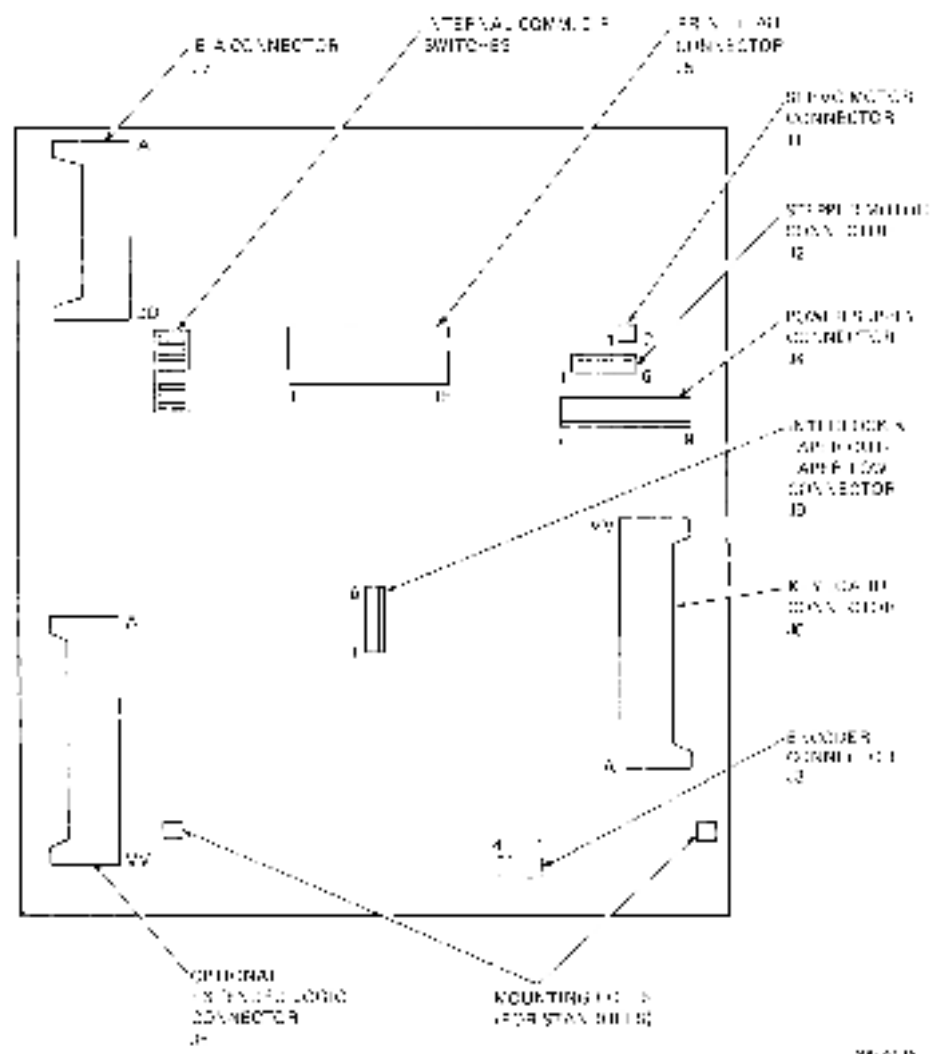
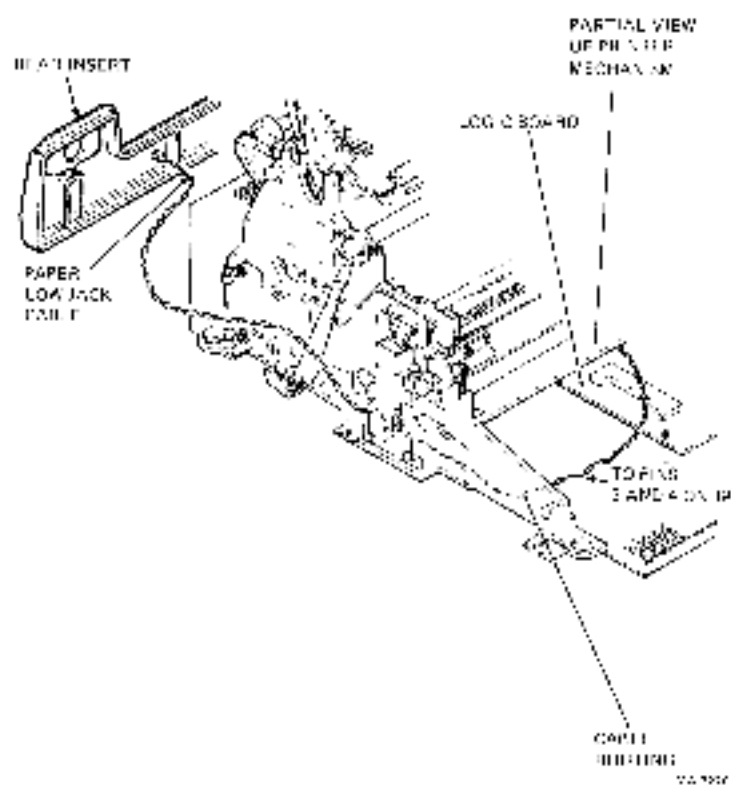

Figure 3-5 Control Board Connector Locations
Figure 3-14 Paper Low Jack Cable Routing
8. Remove the keyboard connector from J6 on the control board (Figure 3-5). Lift the keyboard bezel assembly straight out.
10. Move the EIA interface cable connected to J7 on the control board until there is room to the left to install the option board (Figures 3-5 and 3-7).
16. Reconnect the interlock and paper out/paper low connector to J9 on the control board (Figure 3-5).
11. Route paper low cable around the printer mechanism (Figure 3-14). Connect the cable terminals to jack J9, pins 3 and 4 on the control/logic board (Figure 3-5). The terminal for the white wire connects to J9 pin 3 and the terminal for the black wire connects to J9 pin 4. Push the terminals straight down into the jack.